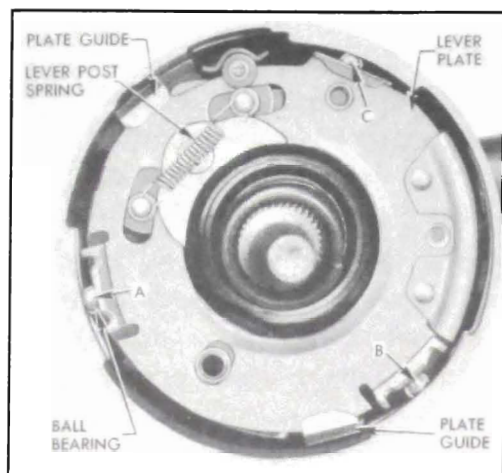

Figure 10-124—Signal Switch Lever Plate
5. Pry outward on the plate guides far enough to permit removal of the lever plate. Using a screwdriver to pry, remove ball bearing "A" (opposite lever), then bearing "B", and finally bearing "C". See figure 10-124.
13. Tilt lever plate by bearing down on right side (at control lever) and insert ball bearing "A". Next install bearing "B", and finally bearing "C", using screwdriver as a pry. The switch sleeve must be in position in slot of lever plate before installing bearing "C". See figure 10-124.